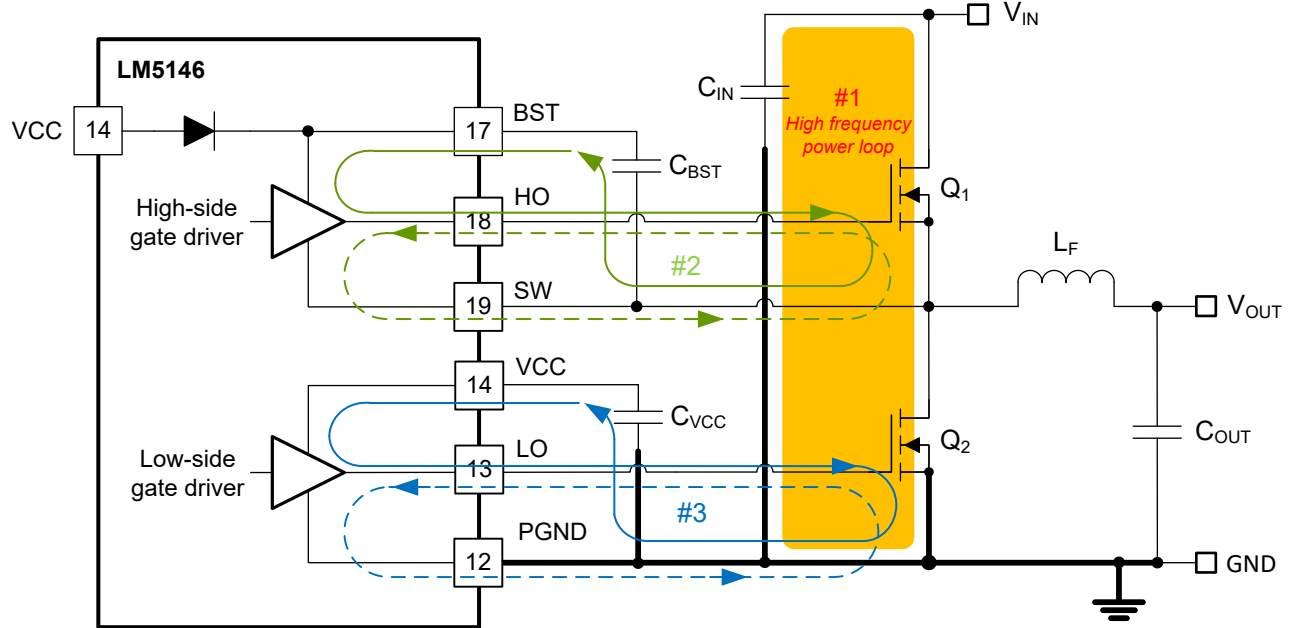

图 11-1. DC/DC Regulator Ground System With Power Stage and Gate Drive Circuit Switching Loops
Proper PCB design and layout is important in a high-current, fast-switching circuits (with high current and voltage slew rates) to assure appropriate device operation and design robustness. As expected, certain issues must be considered before designing a PCB layout using the LM5146. The high-frequency power loop of the buck converter power stage is denoted by #1 in the shaded area of 图 11-1. The topological architecture of a buck converter means that particularly high di/dt current flows in the components of loop 1, and it becomes mandatory to reduce the parasitic inductance of this loop by minimizing its effective loop area. Also important is the gate drive loops of the low-side and high-side MOSFETs, denoted by 2 and 3, respectively, in 图 11-1.
- Loop #1: The most important loop to minimize the area of is the path from the input capacitor or capacitors through the high- and low-side MOSFETs, and back to the capacitor or capacitors through the ground connection. Connect the input capacitor or capacitors negative terminal close to the source of the low-side MOSFET (at ground). Similarly, connect the input capacitor or capacitors positive terminal close to the drain of the high-side MOSFET (at VIN). Refer to loop #1 of 图 11-1.
5. The SW pin connects to the switch node of the power conversion stage and acts as the return path for the high-side gate driver. The parasitic inductance inherent to loop #1 in Figure 11-1 and the output capacitance (C_{OSS}) of both power MOSFETs form a resonant circuit that induces high frequency (> 100 MHz) ringing on the SW node. The voltage peak of this ringing, if not controlled, can be significantly higher than the input voltage. Ensure that the peak ringing amplitude does not exceed the absolute maximum rating limit for the SW pin. In many cases, a series resistor and capacitor snubber network connected from the SW node to GND damps the ringing and decreases the peak amplitude. Provide provisions for snubber network components in the PCB layout. If testing reveals that the ringing amplitude at the SW pin is excessive, then include snubber components as needed.
- Loop 2: high-side MOSFET, Q_1 . During the high-side MOSFET turnon, high current flows from the bootstrap (boot) capacitor through the gate driver and high-side MOSFET, and back to the negative terminal of the boot capacitor through the SW connection. Conversely, to turn off the high-side MOSFET, high current flows from the gate of the high-side MOSFET through the gate driver and SW, and back to the source of the high-side MOSFET through the SW trace. Refer to loop #2 of Figure 11-1.
- Loop 3: low-side MOSFET, Q_2 . During the low-side MOSFET turn-on, high current flows from the VCC decoupling capacitor through the gate driver and low-side MOSFET, and back to the negative terminal of the capacitor through ground. Conversely, to turn off the low-side MOSFET, high current flows from the gate of the low-side MOSFET through the gate driver and GND, and back to the source of the low-side MOSFET through ground. Refer to loop #3 of Figure 11-1.